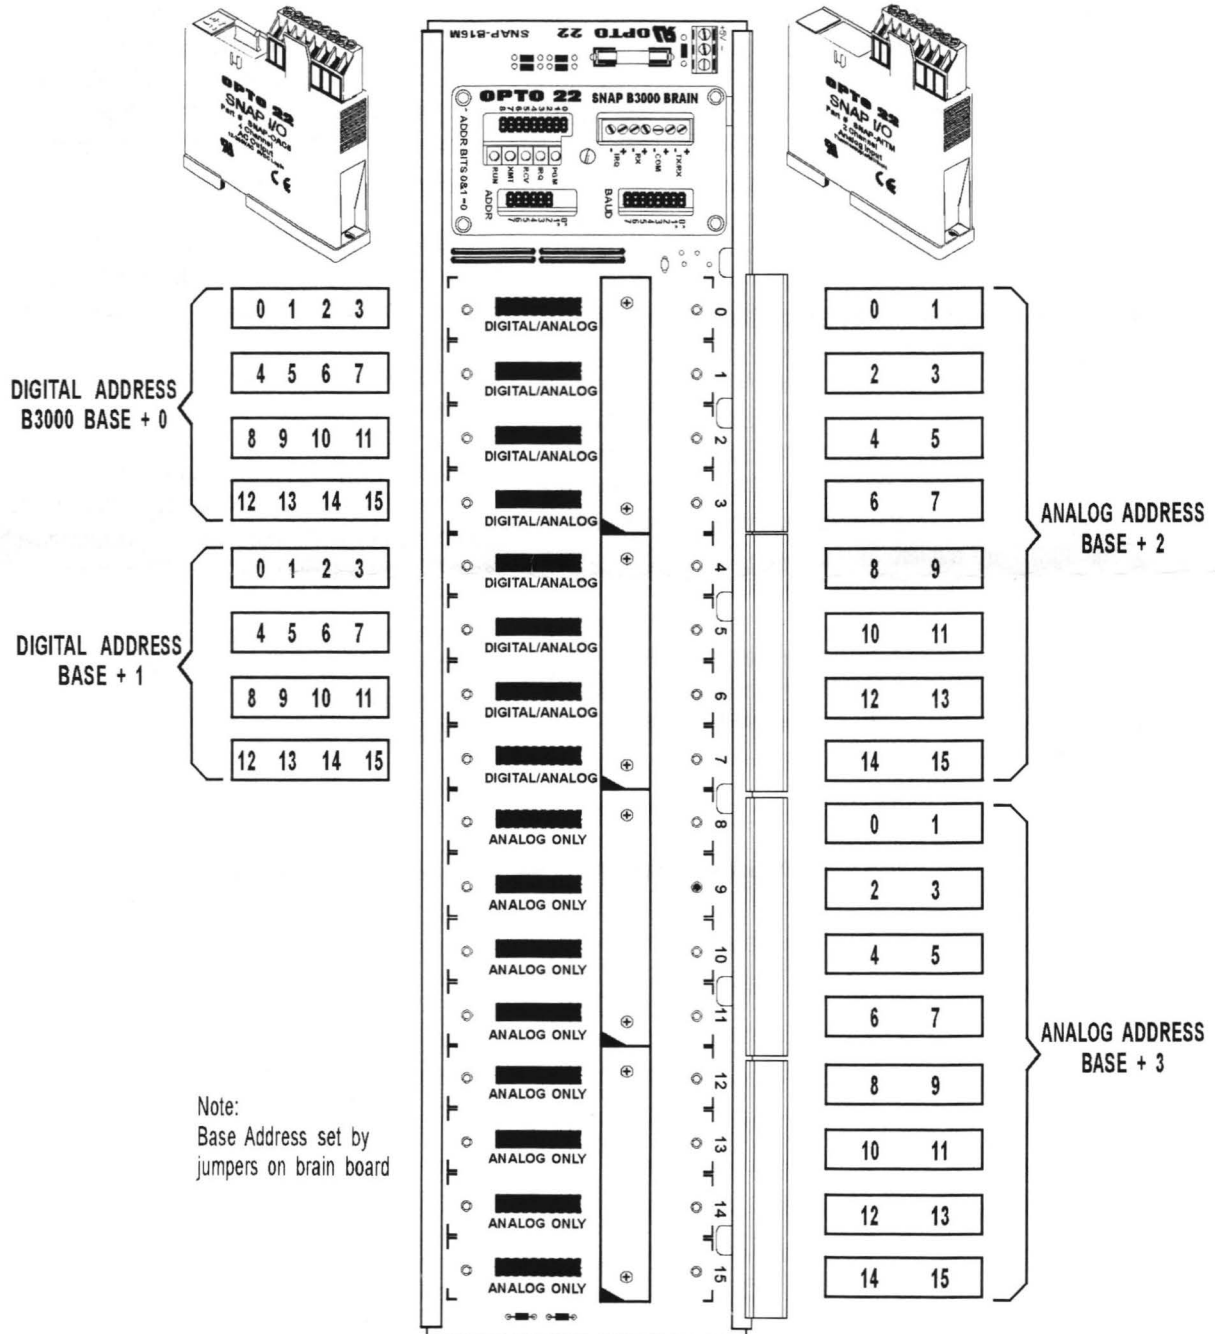

Figure 1-1: SNAP I/O Rack
- See Figure 1-1 on page 18 for B3000 SNAP I/O mapping.
The layout is illustrated in Figure 1-1 on the previous page.